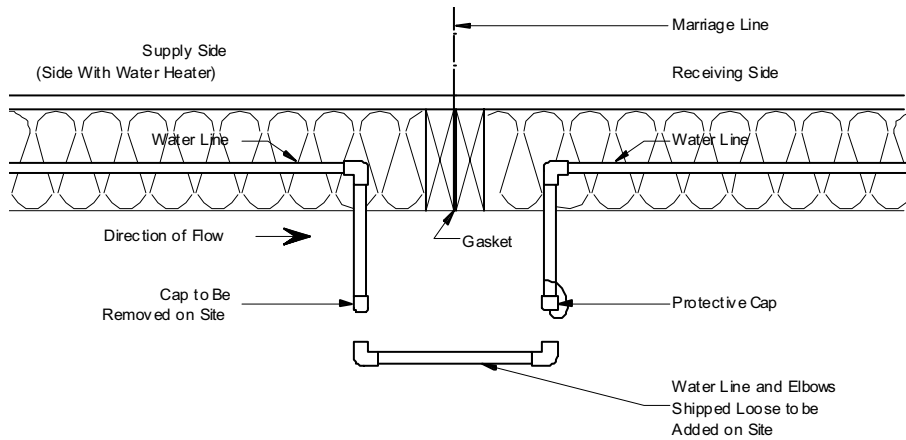

Figure 54. Water line crossover through bottom board
- 2. Connect pipes.** Connect threaded water lines using flexible pipe or a rigid connector line (if provided) and connector fittings (do not use lubricants or sealants). Connect non-threaded water lines, pipe, and elbows with cement provided, inserting pipe to full depth of each fitting (**Figure 54**).